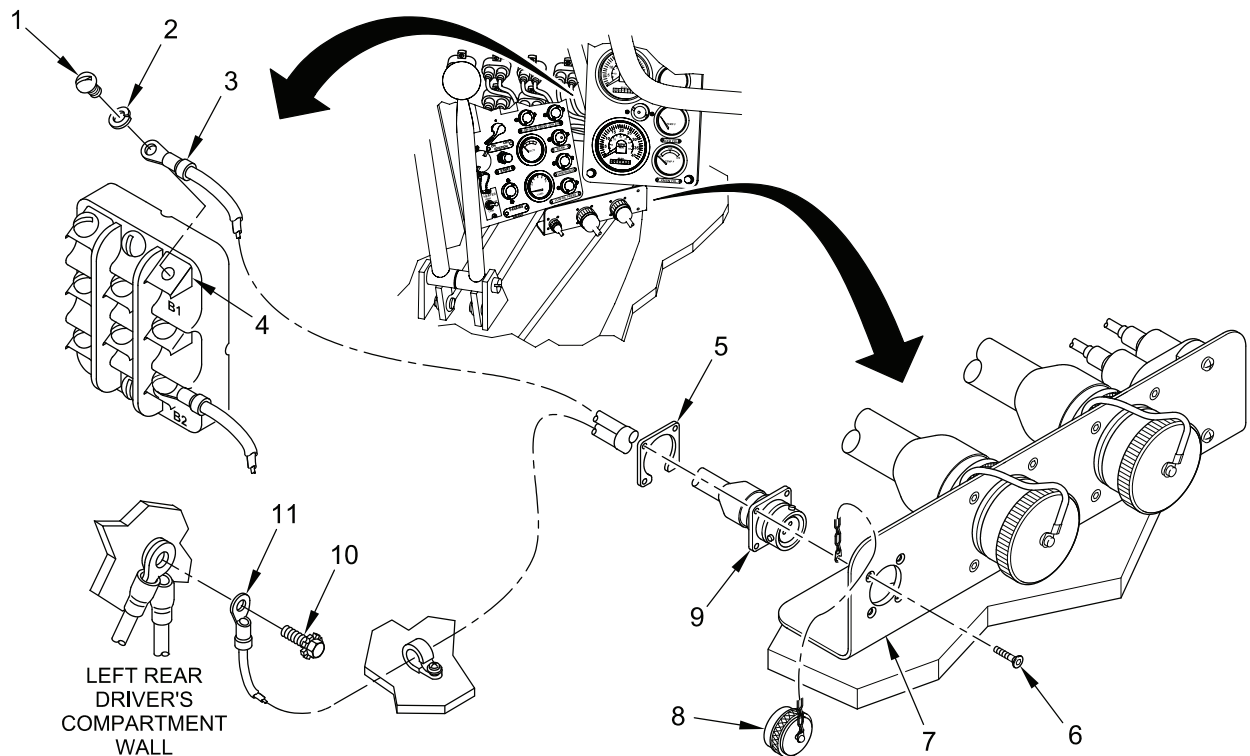

Figure 2. Installing Wiring Harness W1
1. Thread wiring harness W1 leads 1070 (Figure 2, item 3) and 1069 (Figure 2, item 11) through wire clamps to parking brake relay and battery box.
2. Connect wiring harness W1 connector J1 (Figure 2, item 9) to HDC disconnect bracket (Figure 2, item 7) with nutplate (Figure 2, item 5), and four screws (Figure 2, item 6). Attach dust cap (Figure 2, item 8) to connector J1.
3. Install wiring harness W1 lead 1069 (Figure 2, item 11) on compartment wall above the NBC filter with bolt (Figure 2, item 10).
4. Install wiring harness W1 lead 1070 (Figure 2, item 3) on parking brake relay (Figure 2, item 4) with new lockwasher (Figure 2, item 2) and screw (Figure 2, item 1).